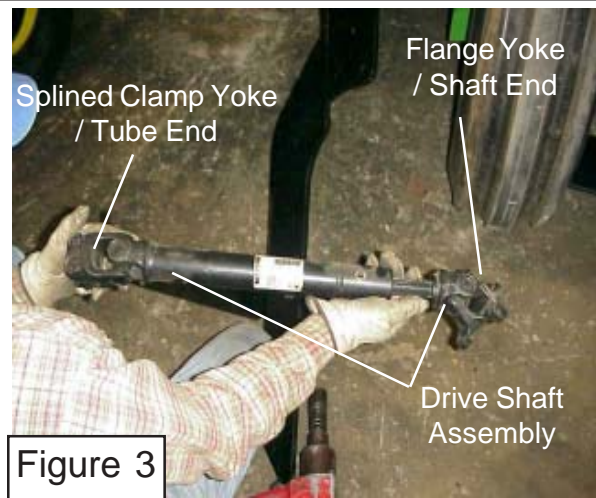

Figure 3
3. Install Shaft Half of Driveline with Flange Yoke. Note the driveline universal joints should be timed (See Figure 3). Slide the two driveline half assemblies apart and lay the tube half aside for now. Make certain that the four retaining bolts for the Pulley adapter to the crankshaft pulley have been tightened.